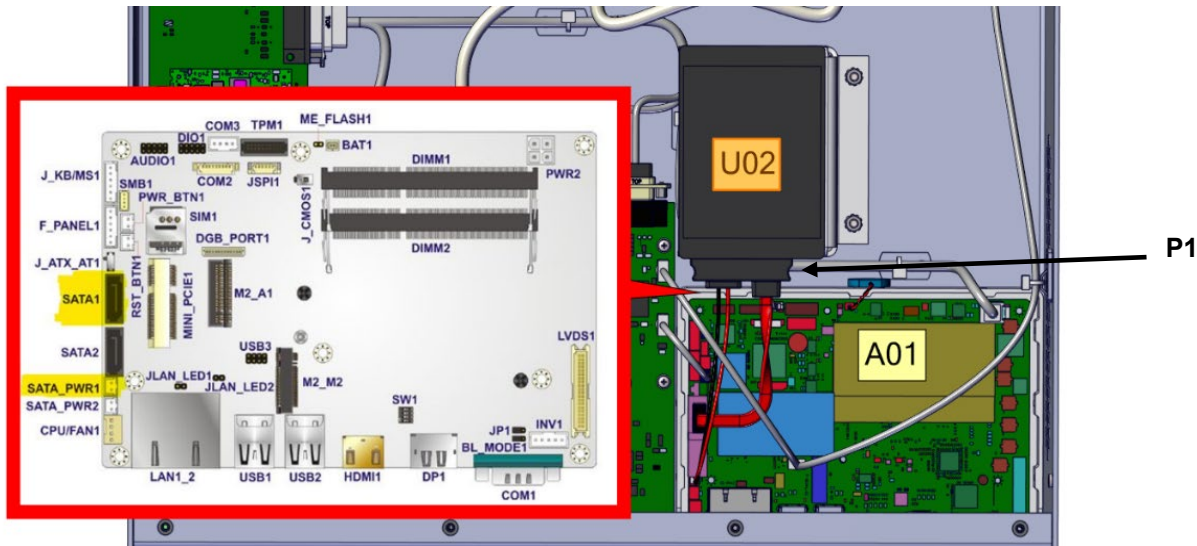

Figure 2: SSD Assembly Removal
(g) Disconnect P1 (large black connector) from the SSD assembly (see Figure 2). **Do not remove SATA1 or SATA_PWR1 connectors.**
- (b) Following steps 3.1 (h), (g) and (f), use retained hardware to install the replacement SSD, its mounting bracket, and the controller module top cover. See Figures 2 and 3 as required.